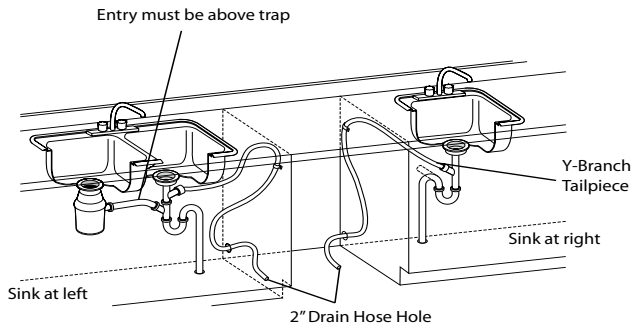
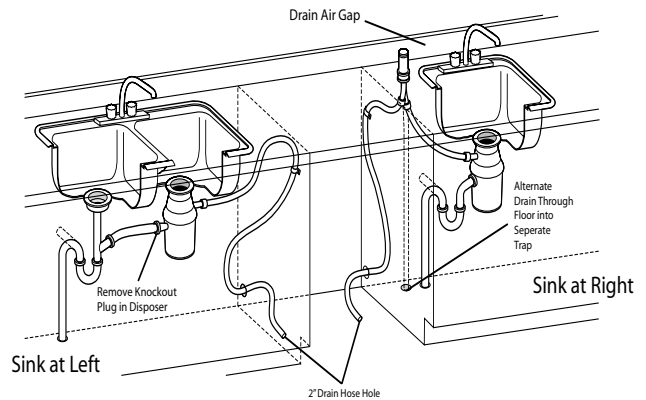

FIG 5
FIG 8
- Y-branch tailpiece (see Figure 5, page 5) for house plumbing, if applicable
- 2 Review Figure 5 and Figure 8 to see the different ways to connect dishwasher to drain system. Choose the method that best suits your need.
- 3 If you connect to a sink drain, entry will need to be above the trap. A "Y" branch tailpiece and connector kit, not included, will make this method easier and includes all needed fittings and instructions. See Figure 8.
- 4 If you connect to a sink trap, local codes may require you to install an air gap kit, not included. The drain hose will be routed from the dishwasher to an air gap inlet as shown in Figure 8. An air gap kit is available from a plumbing supply store.